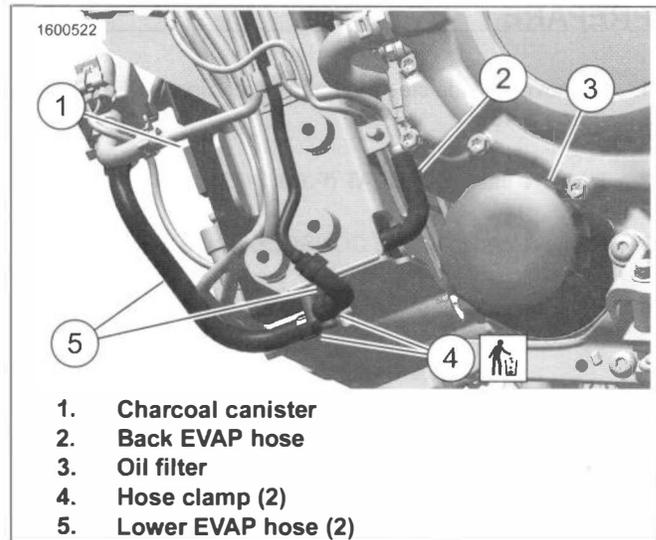
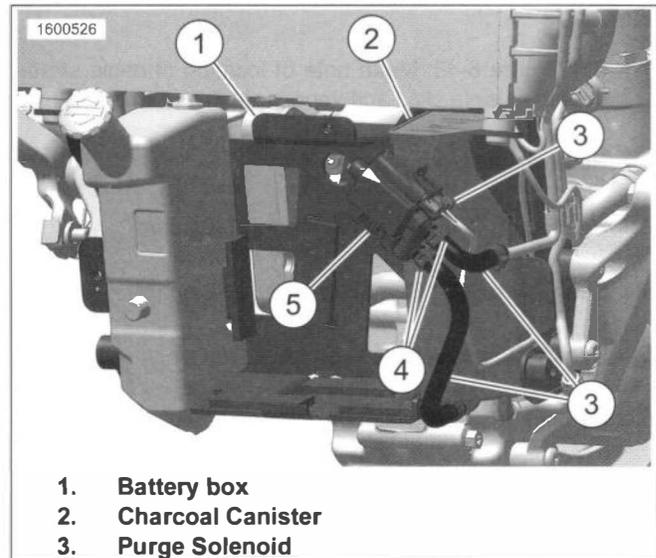

Figure 6-44. EVAP Hoses (Voltage regulator bracket removed for clarity)
Figure 6-45. Charcoal Canister
1. See Figure 6-44. Remove back EVAP hose (2).
2. Remove lower EVAP hoses (5).
- a. Using small screwdriver, loosen hose clamps (4).
3. See Figure 6-45. Remove charcoal canister (2).
1. See Figure 6-45. Install charcoal canister.
2. See Figure 6-44. Install **new** hose clamps (4).
3. Install EVAP hoses (5).